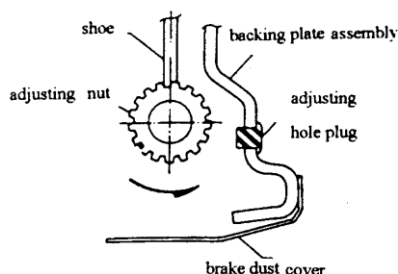

Fig.2-10
- 1) Remove adjusting hole plug. Then with flat-blade screwdriver extend adjusting hole, turn adjusting ratchet wheel by 10 notches. To contract brake shoe lining(refer to Fig.2-10).